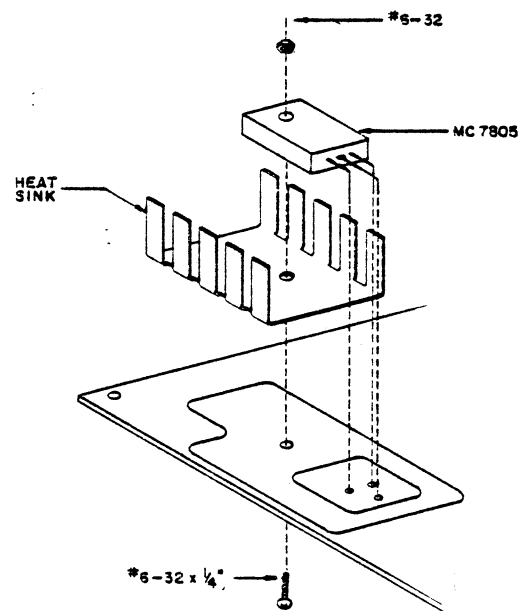

Figure 4-15a.
3. Referring to Figures 4-15a and 4-15, set the regulator and heat sink in place on the silkscreened side of the board, and secure with a #6-32 x 3/8 inch screw and a #6-32 nut.